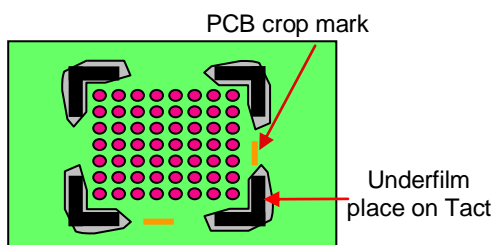

Figure 7
- Place the Underfilm with the Tact Pad as guide as shown in Figure 7.